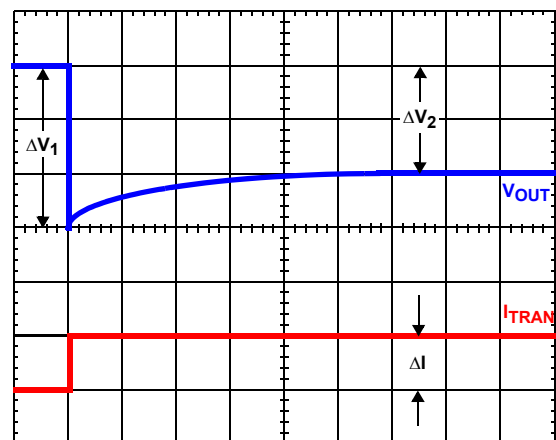

FIGURE 19. TIME CONSTANT MISMATCH BEHAVIOR
Due to errors in the inductance or DCR it may be necessary to adjust the value of  $R_1$  and  $R_2$  to match the time constants correctly. The effects of time constant mismatch can be seen in the form of droop overshoot or undershoot during the initial load transient spike, as shown in Figure 19. Follow the steps below to ensure the R-C and inductor  $L/DCR$  time constants are matched accurately.
2. Record  $\Delta V_1$  and  $\Delta V_2$  as shown in Figure 19.